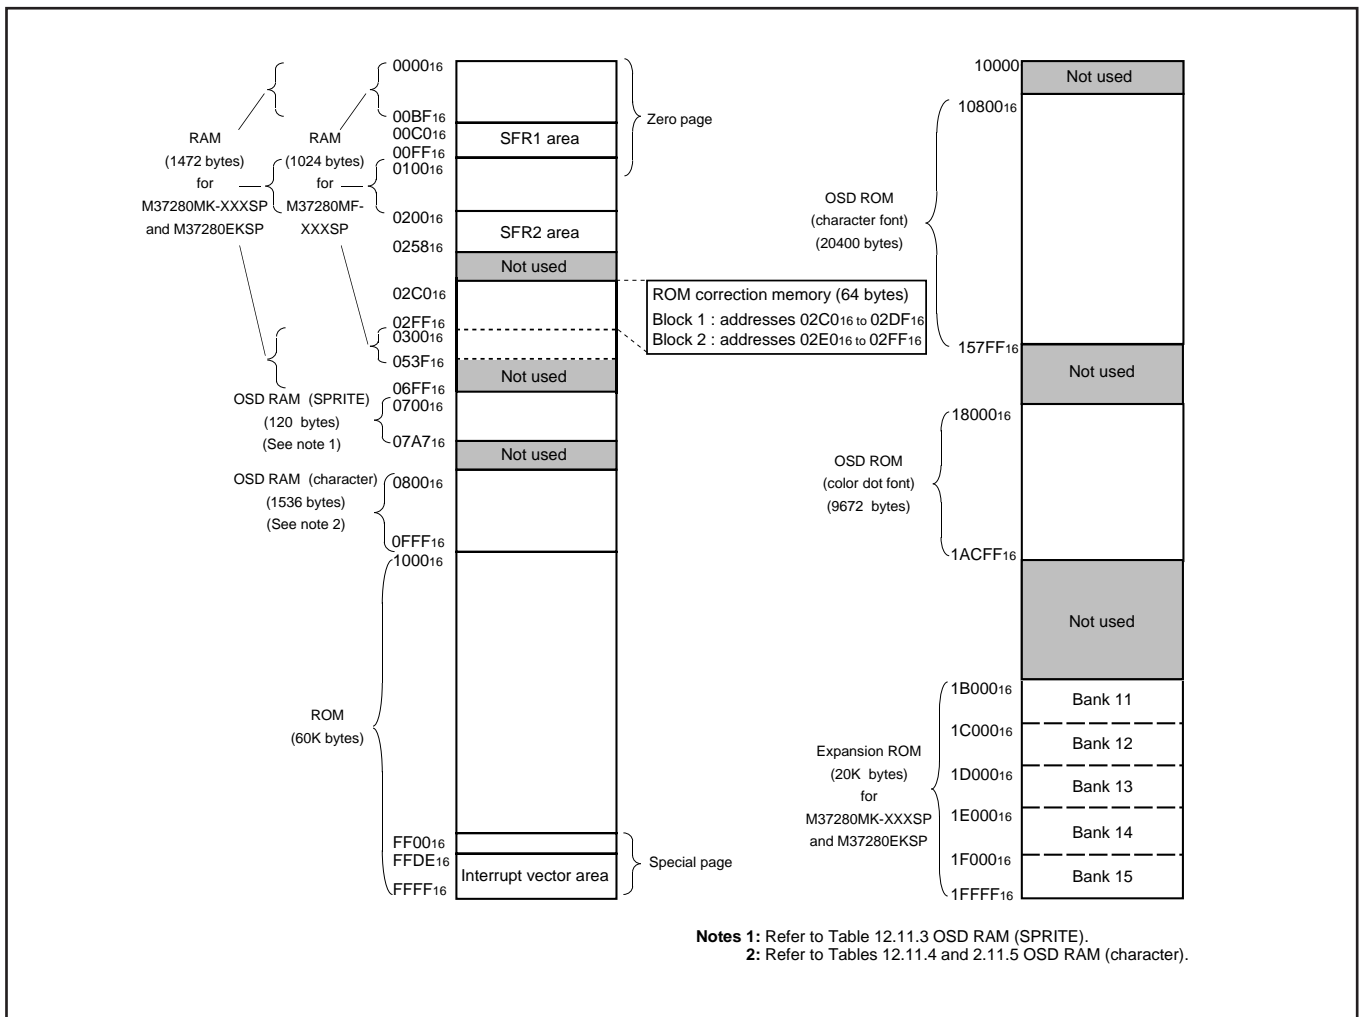

Fig. 12.2.1 Memory Map
**Note :** As shown in the memory map (Figure 12.2.1), port P0 is accessed as a memory at address 00C016 of zero page. Port P0 has the port P0 direction register (address 00C116 of zero page) which can be used to program each bit as an input ("0") or an output ("1"). The pins programmed as "1" in the direction register are output pins. When pins are programmed as "0," they are input pins. When pins are programmed as output pins, the output data are written into the port latch and then output. When data is read from the output pins, the output pin level is not read but the data of the port latch is read. This allows a previously-output value to be read correctly even if the output "L" voltage has risen, for example, because a light emitting diode was directly driven. The input pins float, so the values of the pins can be read. When data is written into the input pin, it is written only into the port latch, while the pin remains in the floating state.